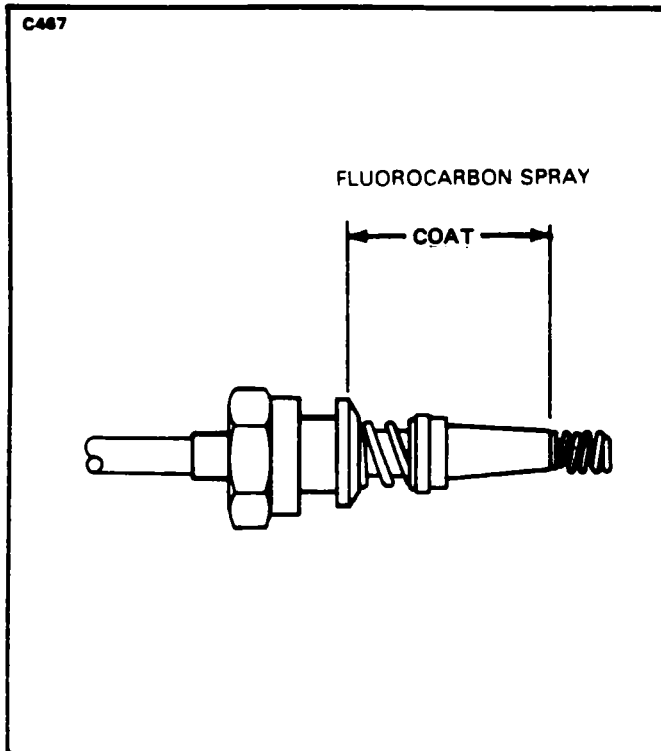
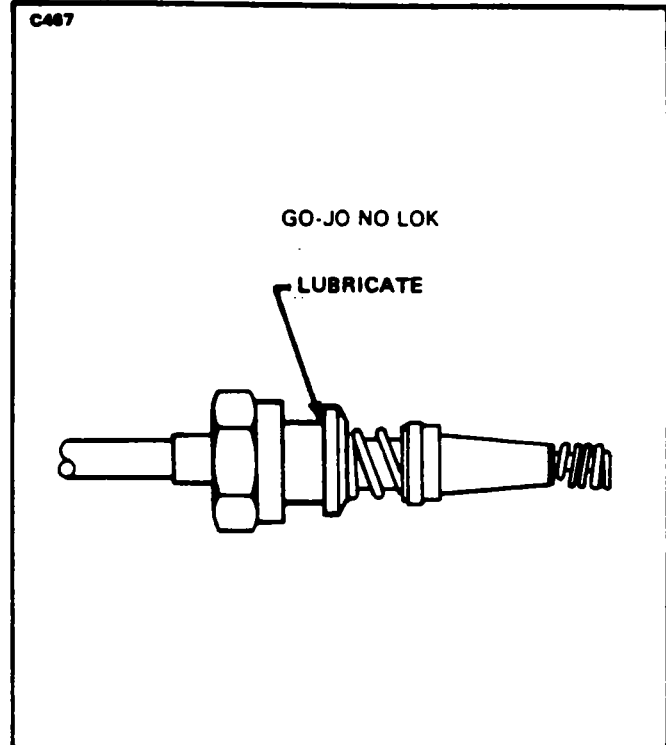

Figure 8-33. Lubricating Sleeve
Figure 8-34. Lubricating Ferrule Shoulder
- i. Prior to seating spark plug lead terminal in plug barrel use fluorocarbon spray on spark plug terminal insulating sleeve. (Refer to Figure 8-33) to prevent heat from sticking sleeve to spark plug barrel. Lightly lubricate the shoulder of ferrule to minimize twisting of ferrule. (Refer to Figure 8-34.) Use GO-JO NO LOK manufactured by Go-Jo Inc., Akron, Ohio 44309.